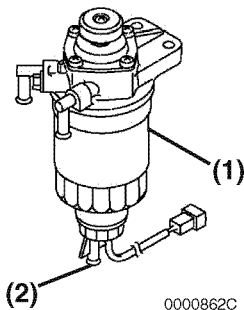

Figure 5-1
1. Position an approved container under the fuel filter / water separator (**Figure 5-1, (1)**) to collect the contaminants.
2. Loosen the drain cock (**Figure 5-1, (2)**) at the bottom of the fuel filter / water separator. Drain any water collected inside.